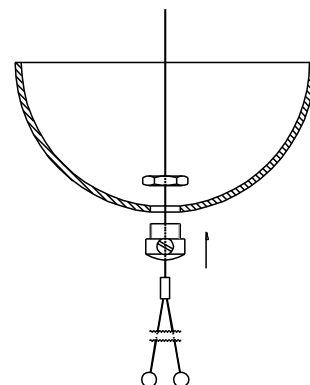

Figure 5 - *Figure 5*
- Insert the Y wire (reported as C in figure 2) through the elements A3, A2 and A1 (as in figure 5) and screw them each other. Insert elements B3 and B2 through the Y wire and screw them until the wire is locked at the desired height.